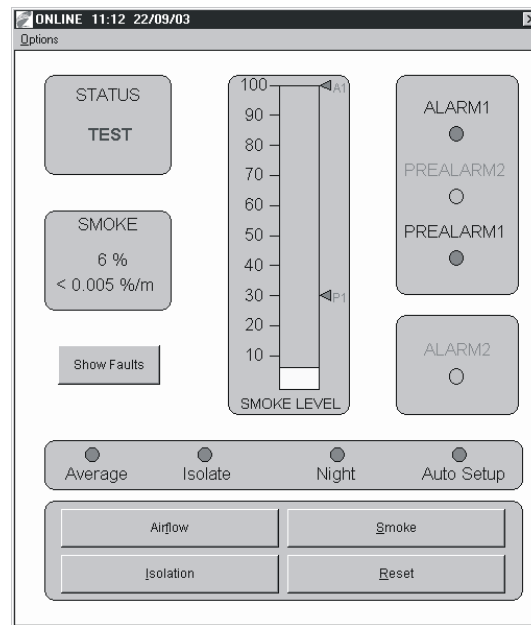

Figure 6-20. Airflow Test Window
1. Select **Options>Test Options>Airflow Test**. The fan will shut off and the display and control graphic will indicate that it is in a test mode, as shown in Figure 6-20.